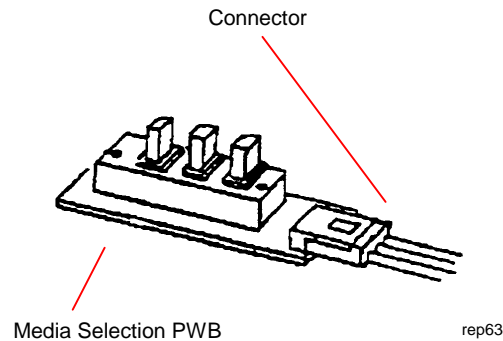

Figure 2. Disconnecting the Connector
3. (Figure 2): Disconnect the connector from the PWB.